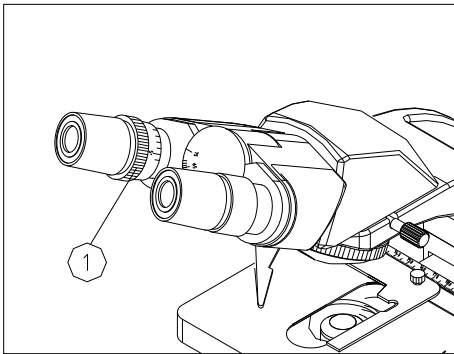

Fig. 20
Observe the specimen with your left eye only through the left eyepiece. If the specimen is not in focus, rotate the diopter ring ① (Fig. 20) until a sharp image is viewed.